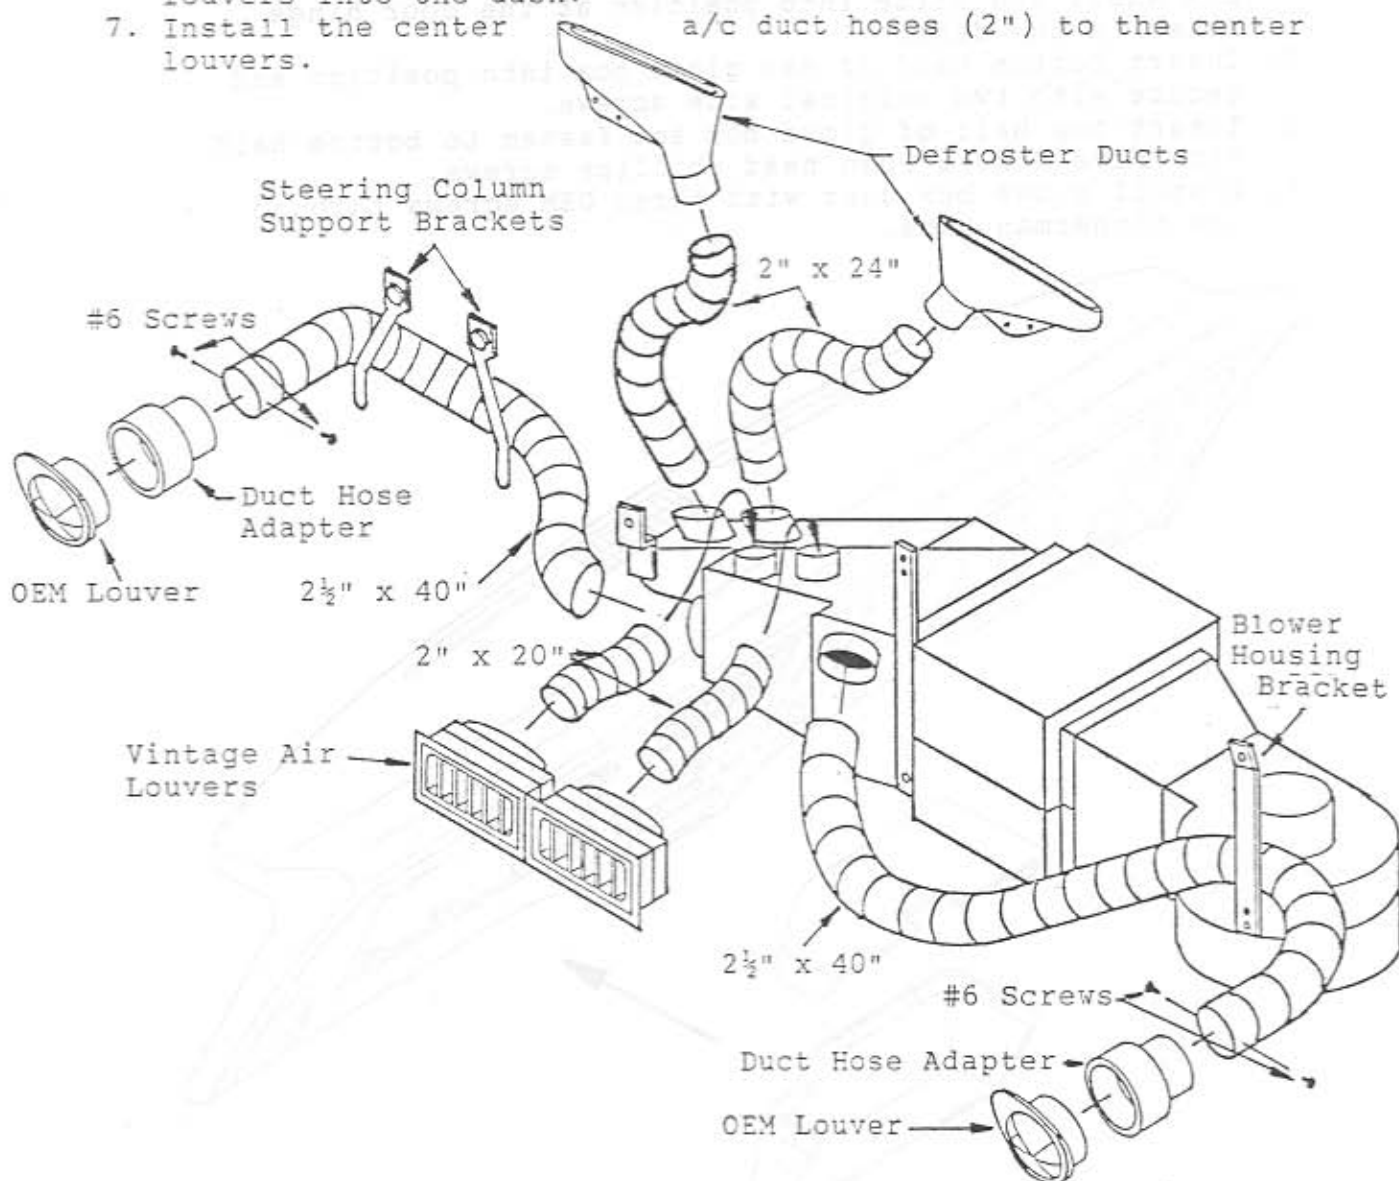

Figure 7
1. Cut the duct hoses according to the lengths given in Figure 7.